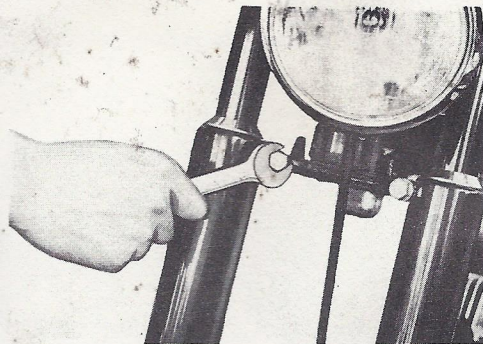

Fig. 4-3-3
- b. Loosen the inner tube mounting bolt on the lower bracket and pull off the fork downward. (Fig. 4-3-3, 4 and 5)